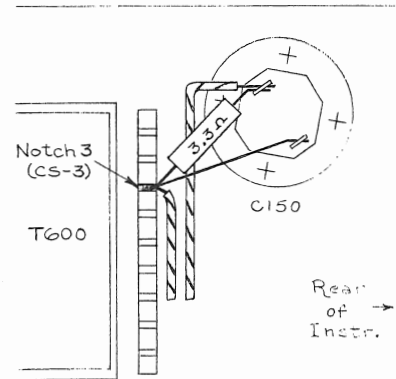

Fig. 2
- () 12. Locate C150, on the bottom of the power chassis, near transformer T600 (see Fig. 2).
- () 13. Move one ONLY of the white-blue wires from C150 to CS-3 (see Fig. 2).
- () 14. Solder the 3.3Ω resistor (from kit) between CS-3 and the terminal of C150 to which the remaining white-blue wire is still soldered (see Fig. 2).
- () 15. Replace the 2.2Ω resistor between C150 and CS-3 with the 3.3Ω resistor from the kit (see Fig. 2).
- () 16. Solder a bare wire (from kit) between CS-3 and the vacant terminal of C150 (see Fig. 2).